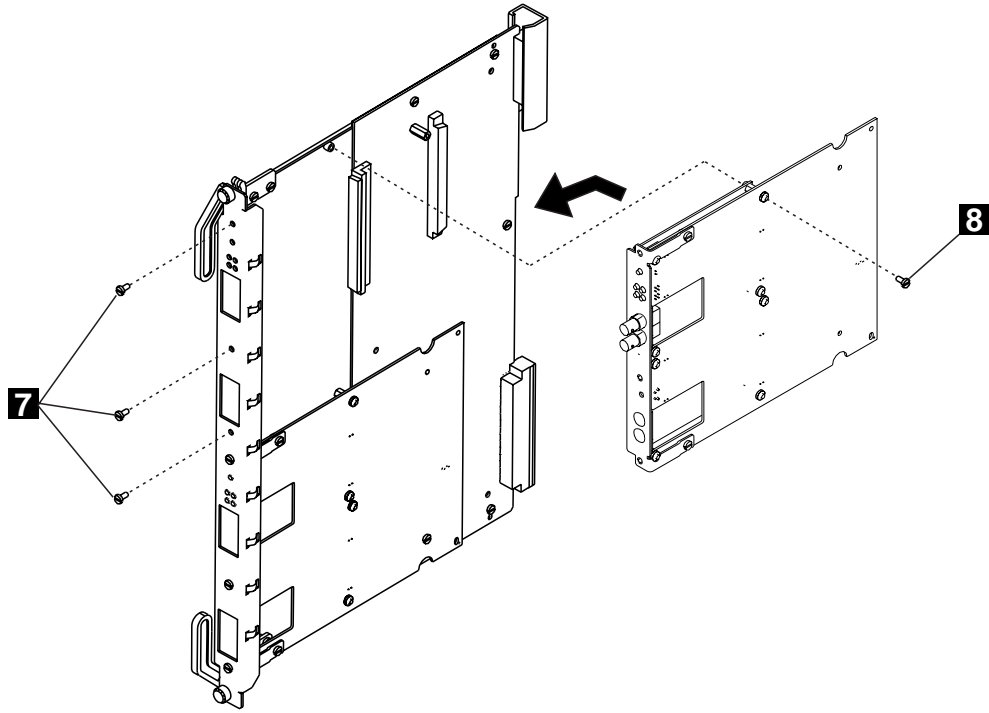

Figure 14. Reattaching the Motherboard
- **9** Reattach the motherboard to the module using the four screws (**7** and **8** in Figure 14 on page 22) that originally held the motherboard.